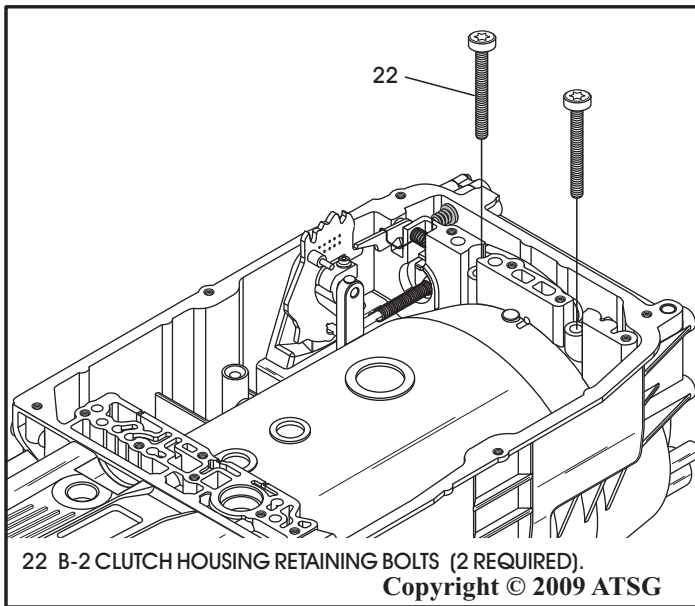

Figure 48
24. Remove the two B-2 clutch housing retaining bolts, as shown in Figure 48, using 40 Torx bit.